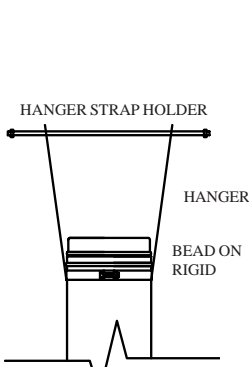
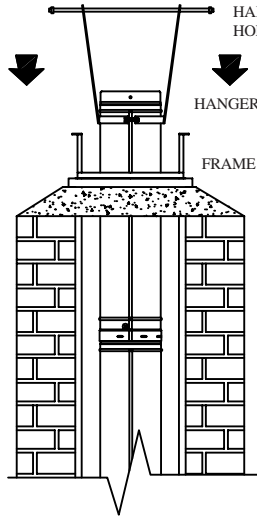
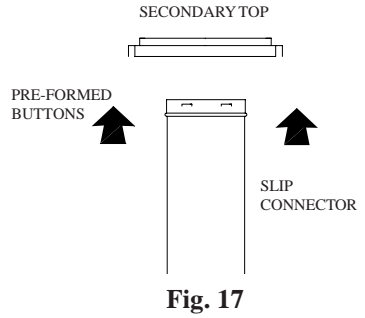

Fig. 8
Fig. 9
**Fig. 16**
**STEP FOUR:** Before you rivet the last section of pipe in place, attach the hanger to the last section of pipe just below the bead. (See Figure 8)
Attach the hanger strap holder to the last hole on the strap. (See Figure 8) Lower DuraLiner to final position. (See Figure 9) If appliance has top flue exit, hold approximately 1/2" above connector. (See Figure 13) If appliance has rear flue exit, line up branch of tee with connector. (See Figure 16)
When branch of tee is aligned with rear exit of appliance, attach DuraLiner Adjustable Sleeve to branch. The Adjustable Sleeve has pre-formed buttons. (See Figure 15) The buttons snap into branch ring. Slide stove or insert into proper position. Adjust pipe and snap into back of stove. Secure Adjustable Sleeve in final position with sheet metal screws. Rear flue exit should look like Figure 16.
**STEP THREE:** Before you rivet the last section of pipe in place, attach the Hanger to the pipe just below the top on the last of the rigid DuraLiner pipe. (See Figure 8) As the DuraLiner rigid pipe is being lowered into final position, line up the branch of the Tee with hole in the masonry chimney wall. (See Figure 22).